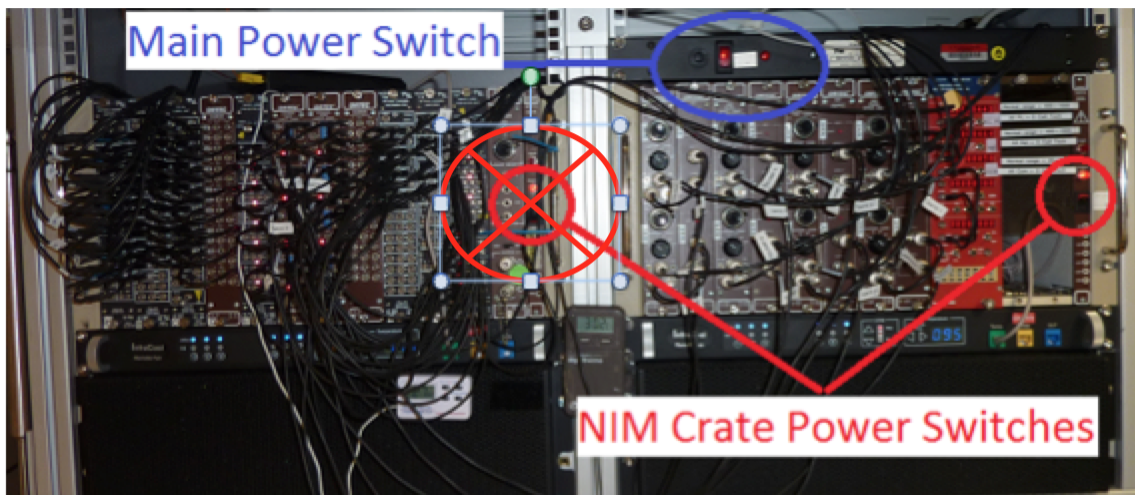

Figure 24. Electronics Crate shutdown switches.
9. Turn off the Nal detector electronics (right-hand NIM rack next to iSEG crate; Figure 24). This will turn off the high-voltage supply to all 8 Nal detectors. **IMPORTANT: Do not turn off the left-hand NIM rack (marked with a circled X in Figure 16 below) or the main power (blue circle) at this time.** Leave all other electronics and fans running to prevent additional condensation from forming.
Take your time. Let the electronics settle. This is not a race. Voltages across any given Nal detector may be monitored with a volt-meter at the bias box with 8 red touch points and a white single ground point. Do **not change the voltage** at any Nal detector at the junction box!!! Remember if you need to switch off the High Voltage you must switch off the whole right-hand NIM crate (right-hand NIM crate button in Fig. 24) as outlined in the partial shutdown procedure, which will turn the high voltage off from all Nal detectors simultaneously.
4. **Turn on** the NaI detector electronics (**right-hand NIM rack**, next to iSEG crate, the **right red circle** in *Figure 24*).